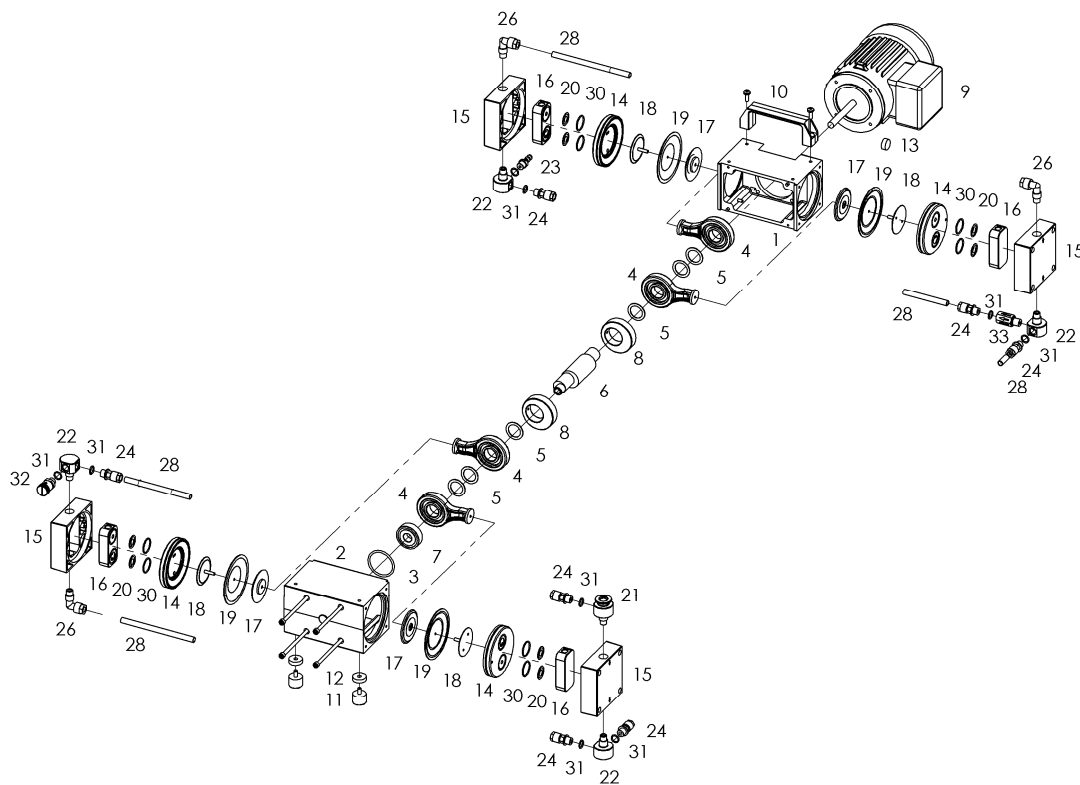

Fig. 3 Exploded View 2052B-01
3. Bring the connecting rod (see Fig. 3) and the diaphragm **(7)** into the central position.
Service Parts List 2052B-01 (see Fig. 3)